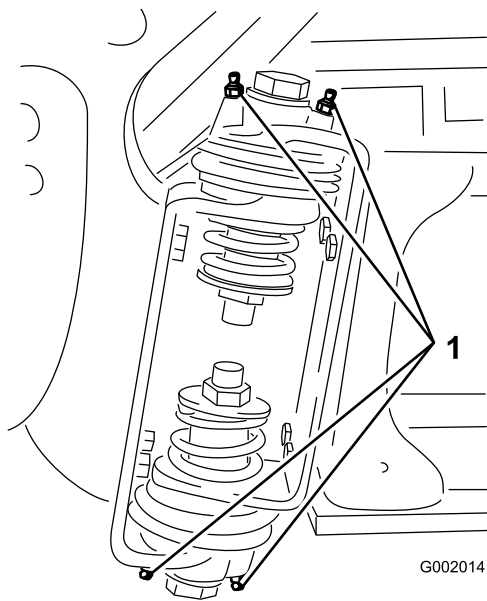

Figure 105
2. Pump grease into the bearing or bushing at each fitting (Figure 105).